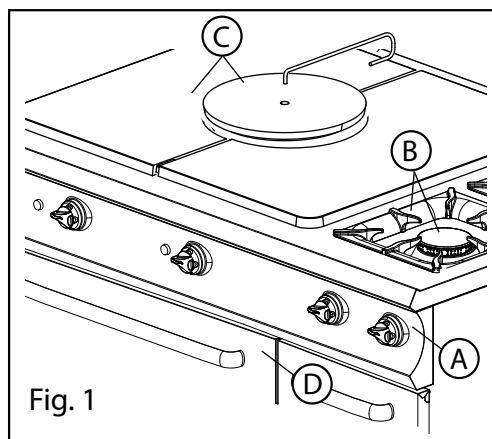

Fig. 1
2. Remove the grilles, burner caps and burners (Fig. 1/A burner 5.5 / 7 kW - Fig. 1/B burner 11 kW)
1. Remove the panel and knobs (Fig. 1/A)
2. **Stove:** remove the grills and burner-caps (Fig. 1/B)
Solid top 980: remove the central disc with the appropriate manoeuvring tool and the side plates (Fig. 1/C).
Oven: open the door (Fig. 1/D).